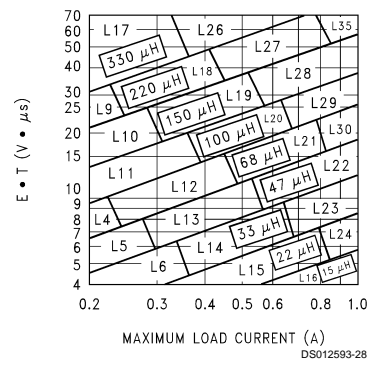

FIGURE 7. LM2598-ADJ
| <p>Given: V_{OUT} = Regulated Output Voltage $V_{IN(max)}$ = Maximum Input Voltage $I_{LOAD(max)}$ = Maximum Load Current F = Switching Frequency (Fixed at a nominal 150 kHz).</p> <p>1. Programming Output Voltage (Selecting R_1 and R_2, as shown in Figure 1) Use the following formula to select the appropriate resistor values.</p> $V_{OUT} = V_{REF} \left(1 + \frac{R_2}{R_1} \right) \quad \text{where } V_{REF} = 1.23V$ <p>Select a value for R_1 between 240Ω and 1.5 kΩ. The lower resistor values minimize noise pickup in the sensitive feedback pin. (For the lowest temperature coefficient and the best stability with time, use 1% metal film resistors.)</p> $R_2 = R_1 \left(\frac{V_{OUT}}{V_{REF}} - 1 \right)$ <p>2. Inductor Selection (L1) A. Calculate the inductor Volt • microsecond constant $E \cdot T$ ($V \cdot \mu s$), from the following formula:</p> $E \cdot T = (V_{IN} - V_{OUT} - V_{SAT}) \cdot \frac{V_{OUT} + V_D}{V_{IN} - V_{SAT} + V_D} \cdot \frac{1000}{150 \text{ kHz}} \quad (V \cdot \mu s)$ <p>where V_{SAT} = internal switch saturation voltage = 1V and V_D = diode forward voltage drop = 0.5V</p> <p>B. Use the $E \cdot T$ value from the previous formula and match it with the $E \cdot T$ number on the vertical axis of the Inductor Value Selection Guide shown in Figure 7.</p> <p>C. on the horizontal axis, select the maximum load current.</p> <p>D. Identify the inductance region intersected by the $E \cdot T$ value and the Maximum Load Current value. Each region is identified by an inductance value and an inductor code (LXX).</p> <p>E. Select an appropriate inductor from the four manufacturer's part numbers listed in Figure 8.</p> <p>3. Output Capacitor Selection (C_{OUT}) A. In the majority of applications, low ESR electrolytic or solid tantalum capacitors between 82 μF and 220 μF provide the best results. This capacitor should be located close to the IC using short capacitor leads and short copper traces. Do not use capacitors larger than 220 μF. For additional information, see section on output capacitors in application information section.</p> | <p>Given: $V_{OUT} = 20V$ $V_{IN(max)} = 28V$ $I_{LOAD(max)} = 1A$ $F =$ Switching Frequency (Fixed at a nominal 150 kHz).</p> <p>1. Programming Output Voltage (Selecting R_1 and R_2, as shown in Figure 1) Select R_1 to be 1 kΩ, 1%. Solve for R_2.</p> $R_2 = R_1 \left(\frac{V_{OUT}}{V_{REF}} - 1 \right) = 1k \left(\frac{20V}{1.23V} - 1 \right)$ <p>$R_2 = 1k (16.26 - 1) = 15.26k$, closest 1% value is 15.4 kΩ. $R_2 = 15.4 \text{ k}\Omega$.</p> <p>2. Inductor Selection (L1) A. Calculate the inductor Volt • microsecond constant ($E \cdot T$),</p> $E \cdot T = (28 - 20 - 1) \cdot \frac{20 + 0.5}{28 - 1 + 0.5} \cdot \frac{1000}{150} \quad (V \cdot \mu s)$ $E \cdot T = (7) \cdot \frac{20.5}{27.6} \cdot 6.67 \quad (V \cdot \mu s) = 34.8 \quad (V \cdot \mu s)$ <p>B. $E \cdot T = 34.8 \quad (V \cdot \mu s)$</p> <p>C. $I_{LOAD(max)} = 1A$</p> <p>D. From the inductor value selection guide shown in Figure 7, the inductance region intersected by the 35 ($V \cdot \mu s$) horizontal line and the 1A vertical line is 100 μH, and the inductor code is L29.</p> <p>E. From the table in Figure 8, locate line L29, and select an inductor part number from the list of manufacturers part numbers.</p> <p>3. Output Capacitor Selection (C_{OUT}) A. See section on C_{OUT} in Application Information section.</p> |